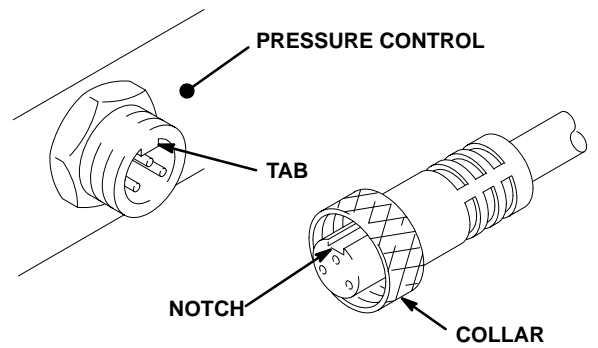

Fig. 14
3. Unscrew the collar of the power supply cord and unplug the cord from the pressure control. See Fig. 14.
6. Plug in the power cord so the notch in the collar and the tab in the socket align. Screw on the collar. See Fig. 14.